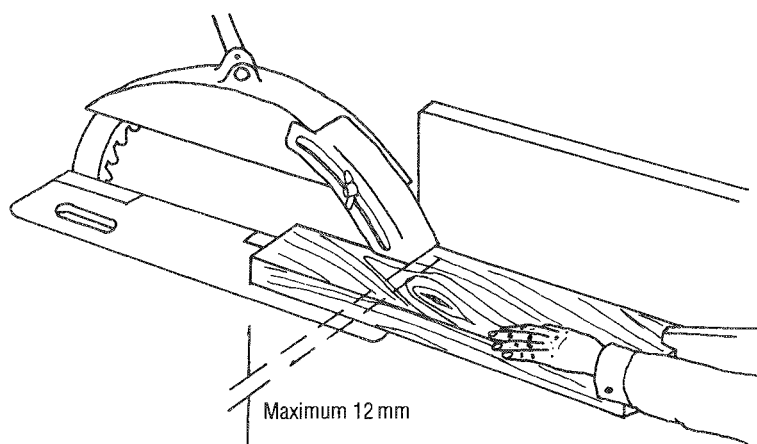

Fig. 1.18 Setting the crown and extension guards.
- (b) the guard is not more than 12mm above the material. On some machines an extension guard is fitted to the crown guard. If this is the case and it is 12mm from the material then the crown guard can be set higher, provided that it conceals the gullets (**Fig. 1.18**).